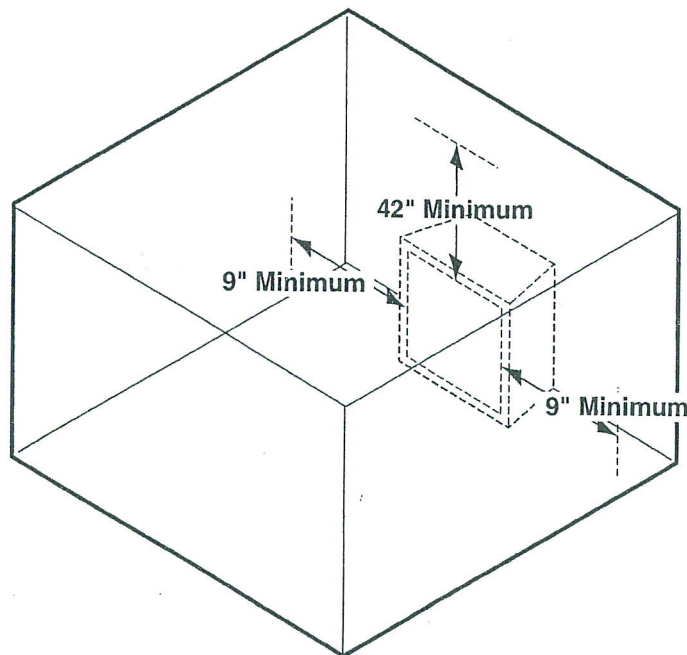

Figure 9
Ensure that minimum clearances shown in *Figure 9 through 10* are maintained. Left and right clearances are determined when facing the front of the firebox.
1. **Sidewall clearances:** the clearance from the inside of the appliance to any combustible wall should not be less than 9" (*refer to Figure 9*).
2. **Ceiling clearance:** The ceiling must be at least 42" from the top of the firebox opening (*refer to Figure 9*).